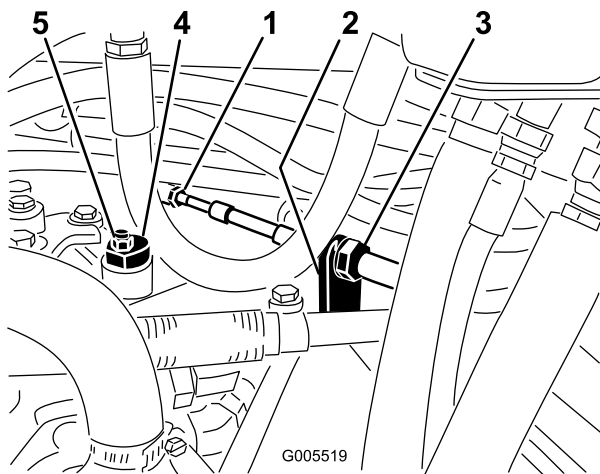

Figure 55
- A. Loosen both jam nuts securing the traction control cable to the bulkhead on the hydrostat (Figure 55). Make sure the jam nuts are loosened equally and sufficiently to allow adjustment.
Note: Loosen the nut securing the eccentric to the top of the hydrostat (Figure 55).
adjustment (Figure 55). Verify the adjustment with the throttle in the Slow and Fast position.
- D. From each side of the bulkhead, tighten the locknuts evenly, securing the traction cable to the bulkhead (Figure 55). Do not twist the cable.